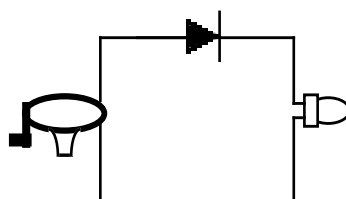

Figure 9.6b
2. Add the diode as shown in Figure 9.6b, and observe the LED as the handle moves in both directions.